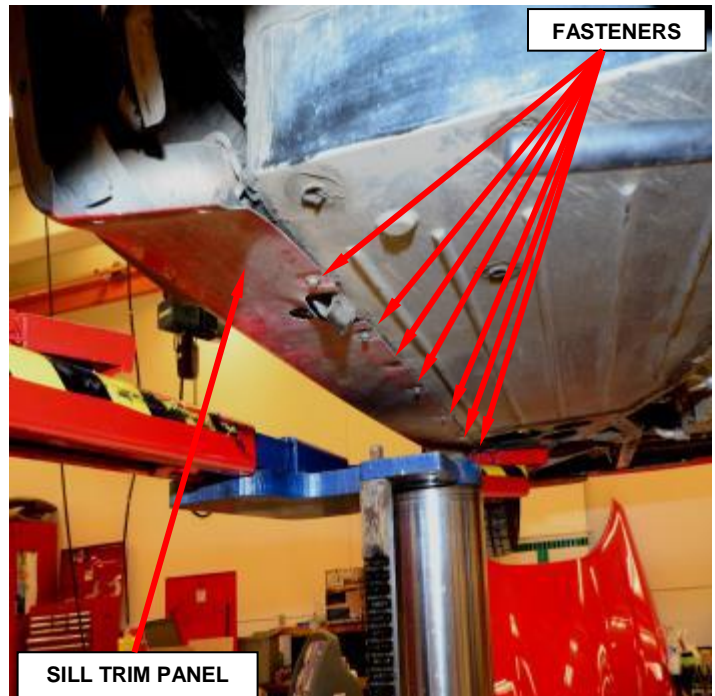

Figure 37 – Sill Trim Panel
- m. Remove and save the seven fasteners from the bottom sill trim panel (Figure 37).